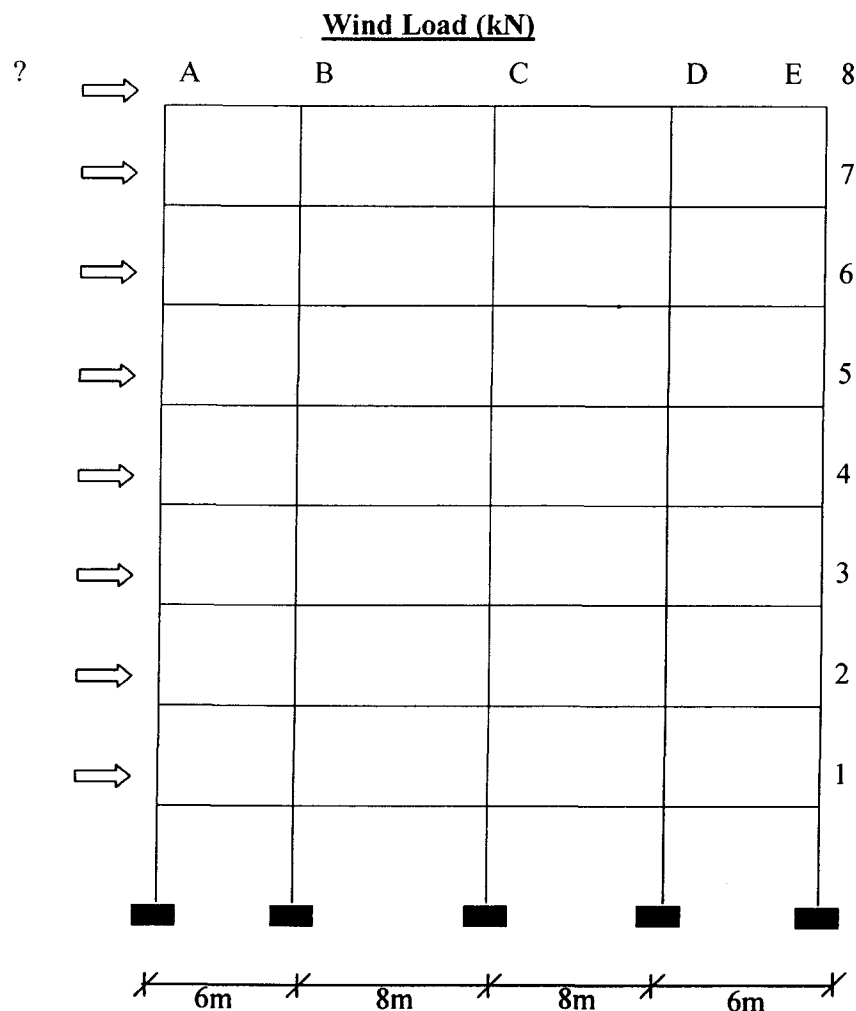

Figure 2
2. (b) A ten storey rigid frame building as shown in Figure 2 refers to the terrain category **THREE (3)** in Penang with a basic wind speed of 33.5m/s^2 . Calculate the value of design wind force from first floor up to the roof level of the frame based on MS1553:2002. The height of each storey is 3m, which makes the total accumulated height of the building of 24m. The frame spacing is 6m with the width and height of the building of 28m and 30m respectively. The height of each is 3m, which makes the total accumulated height of the building of 24m. The frame spacing is 6m with the width and height of the building of 28m and 30m respectively. The storey height is typically 3.0m, to give a total height of 24m. The frames are spaced at 6m, the width of building is 28m and the length is 30m. Please indicate all the assumed values used in the calculations.